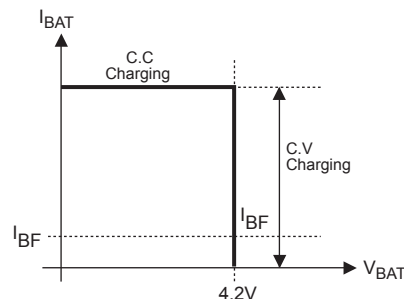

Figure 2—MP26058 Typical Charging Profile
Figure 2 below shows the typical charging profile for the MP26058. It begins charging at the constant current of the programmed value (I_{CHG}). This is referred to as Constant Current (CC) mode. Once the battery voltage reaches 4.2V, the charger will operate in the LDO mode to keep the battery is fully charged. The charge current drops during LDO mode, and the battery full indication is set when the charge current reduced to the preset value based on R_{BF} . After 262144 cycles of continuous charging,